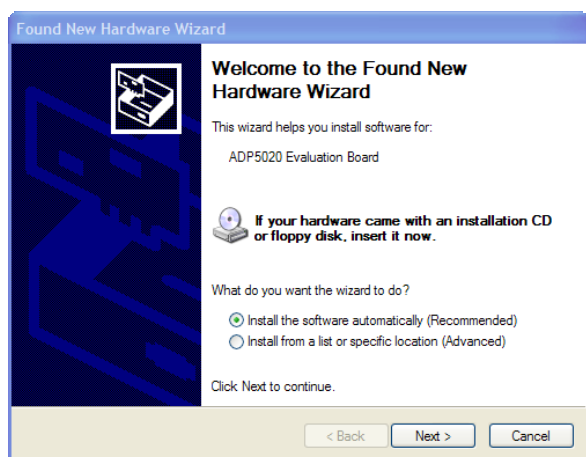

Figure 9. Found New Hardware Wizard
1. Plug the ADP5020 board into the computer using the USB cable provided with the evaluation kit. Once the system recognizes the board, the dialog box shown in Figure 9 appears.